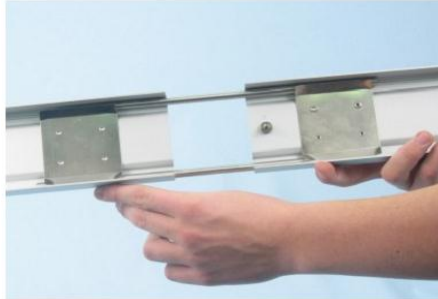

Figure 2.4: Tracks connection.
- 1- Connect two tracks as shown in Figure 2.4.